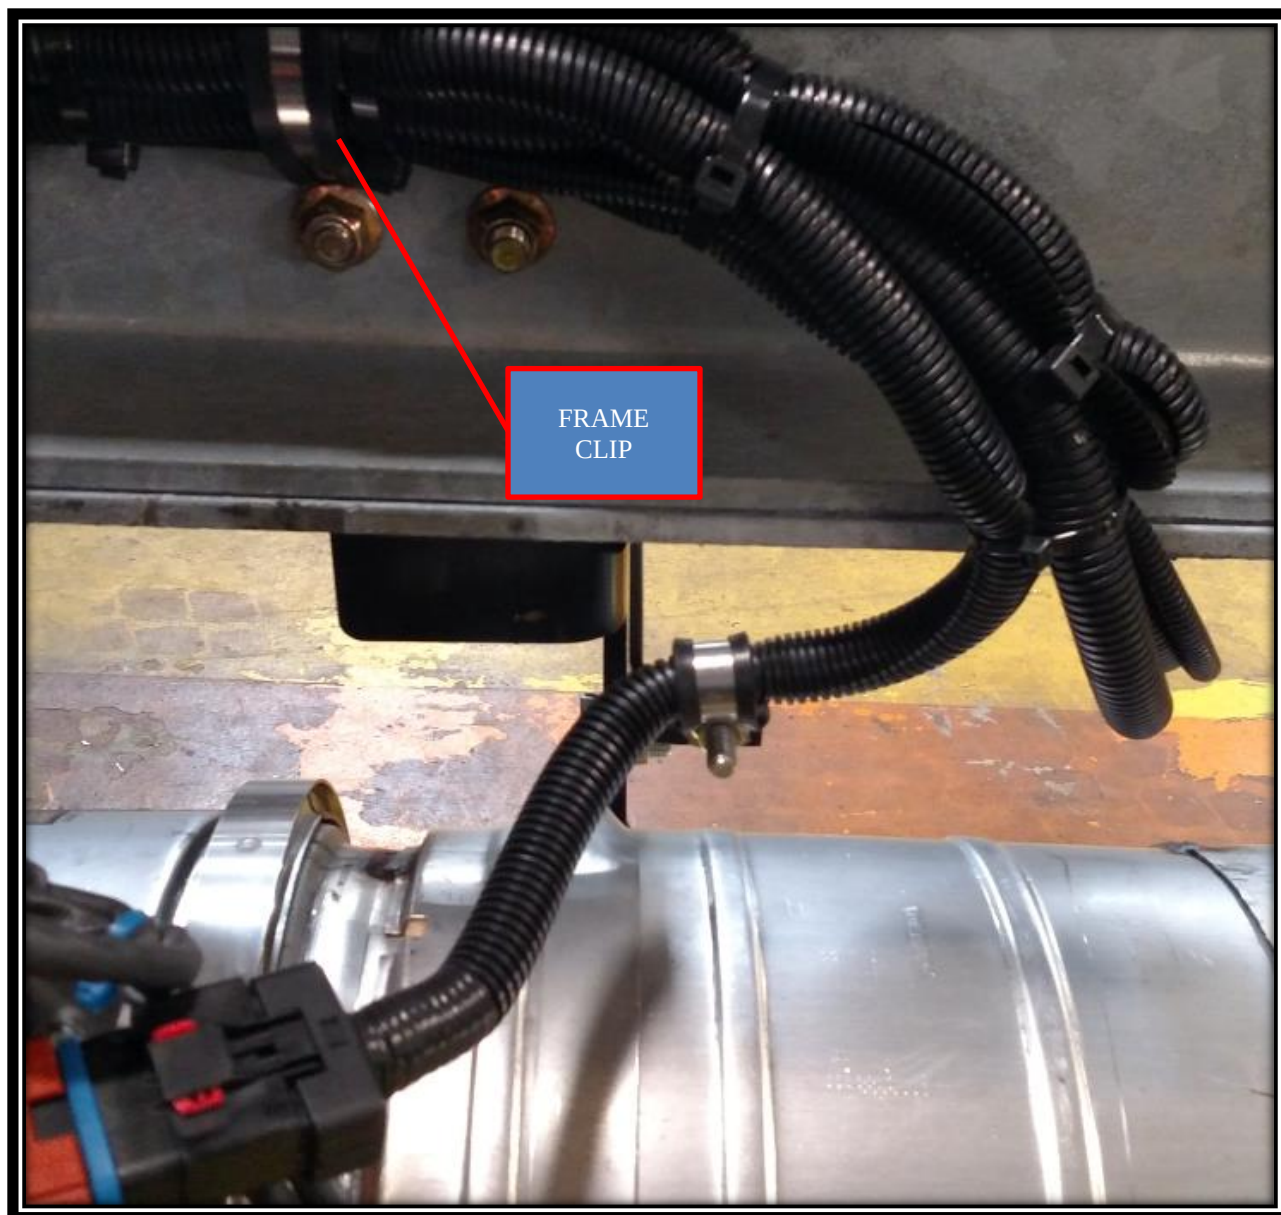

FIG 5.1
4. Route harness rearward below frame rail then loop upward into frame securing harness with frame clips. Refer to FIG. 5.1.